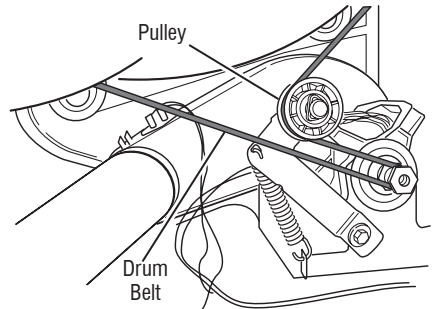

Figure 5 - Slowly remove drum belt
7. Check the drive motor slowly remove the drum belt from the spring-loaded pulley, gently letting the pulley down. See figure 5.